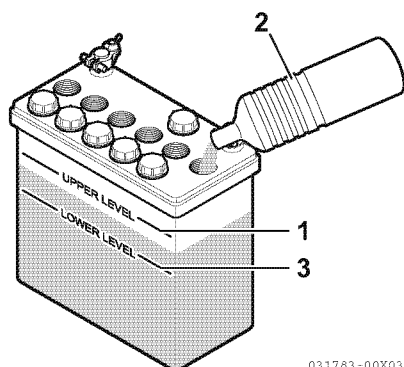

Figure 1
- When the amount of fluid nears the lower limit (3, **Figure 1**), fill with distilled water (2, **Figure 1**) so it is at the upper limit (1, **Figure 1**). If operation continues with insufficient battery fluid, the battery life is shortened, and the battery may overheat and explode. During the summer, check the fluid level more often than specified.